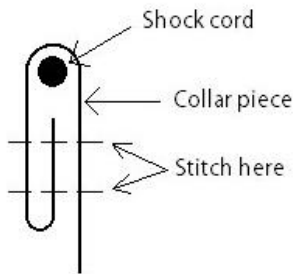

Figure 21. Collar sleeve for shock cord.
- 8.3 Fold the top edge to the wrong side, forming a sleeve for the shock cord. Fold under $\frac{1}{4}$ " and stitch down per *Figure 21*. Sew collar onto pack body, right sides together. Double stitch.